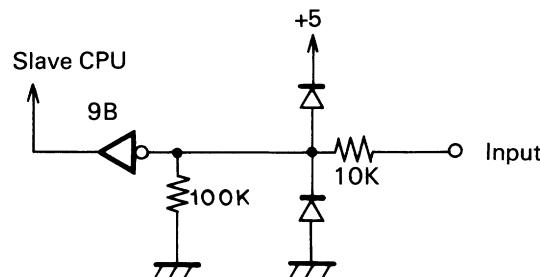

Fig. 2-113
- The PRX and PIN signal lines have a 10-kohm current limiting resistor, a voltage limiter circuit, consisting of two diodes, and a 100 kohm pull-down resistor, as shown in Fig. 2-113. The current limiting resistor protects the connected device from overload and voltage drop. The voltage limiter converts the $\pm 8V$ RS-232C levels to the 0/+5V TTL levels. The pull-down resistor ensures that the IC inverter to functions properly.